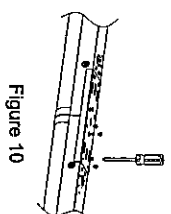

Figure 10
- Step2. Align the other lamp to the bracket and lock the screws (Figure 10)